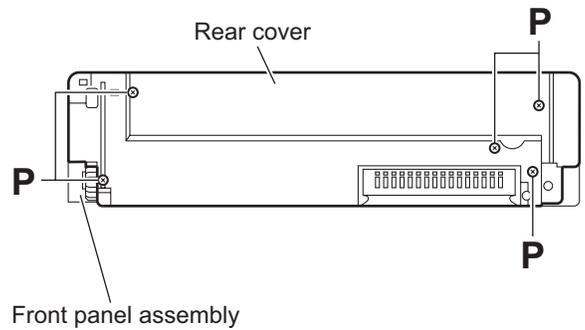

Fig.12
3.1.9 Removing the switch board (See Figs. 12 to 14)
- From the back side of the front panel assembly, remove the five screws **P** attaching the rear cover. (See Fig.12.)